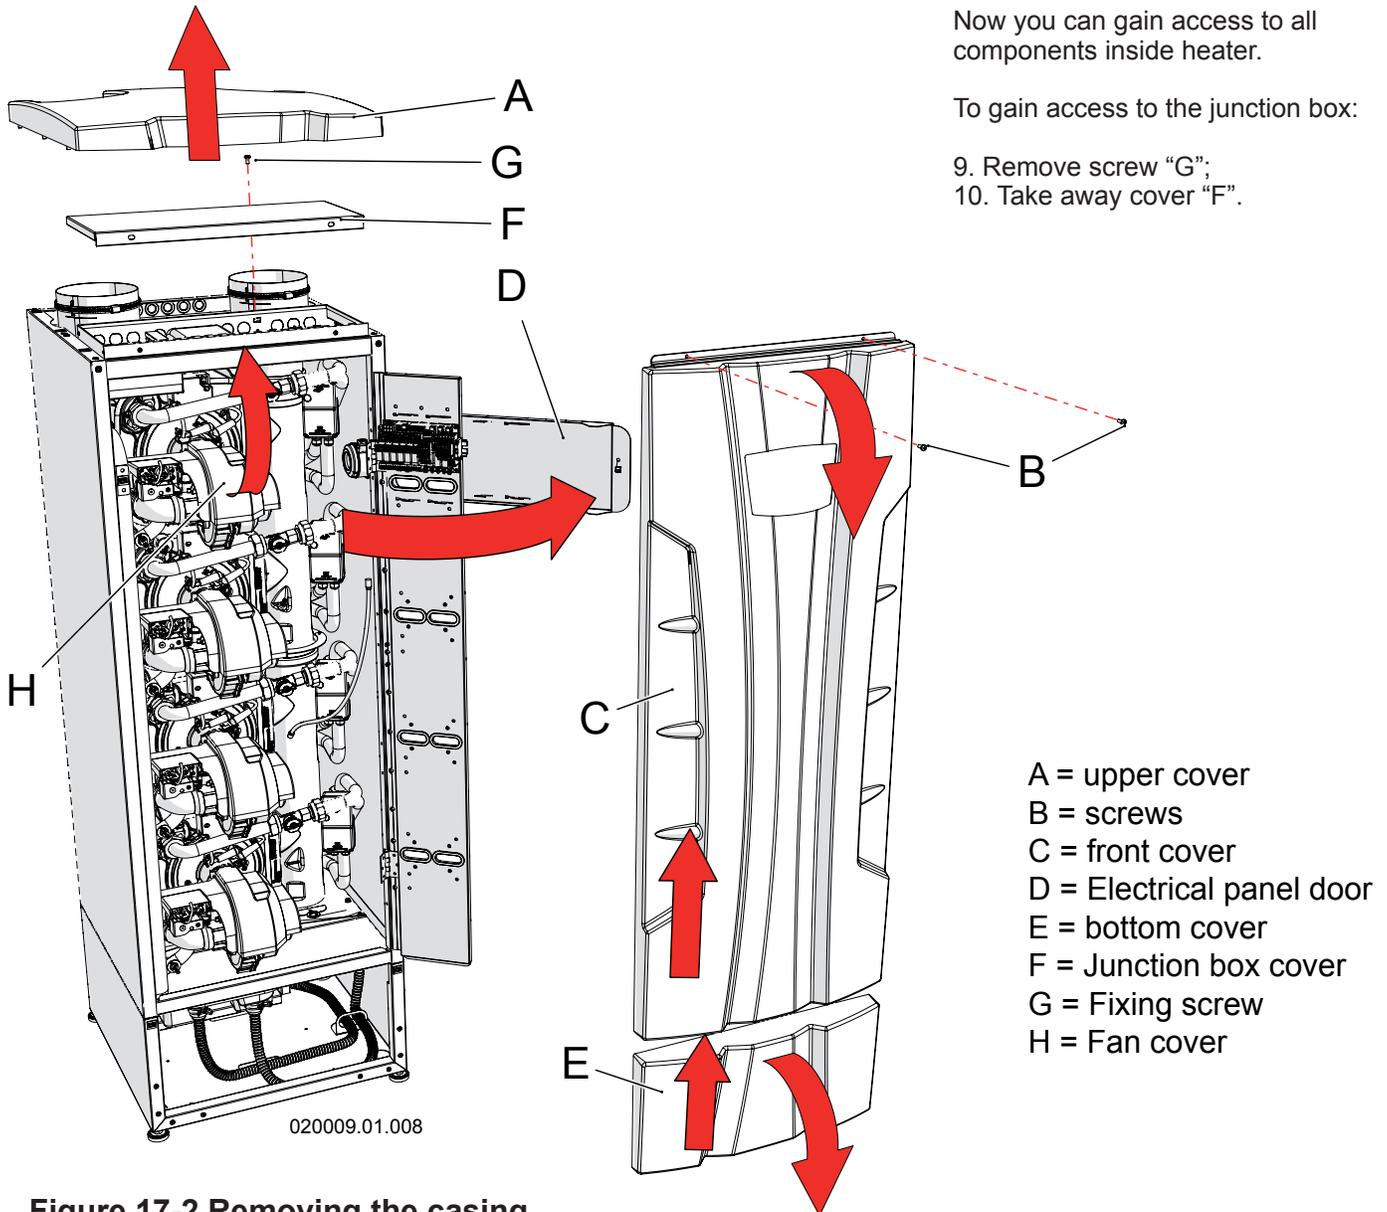

Figure 17-2 Removing the casing
In order to remove the casing, follow the steps below while referring to Figure 17-2:
1. follow the steps in Section 17.2 to remove cover "E" of Figure 17-2;